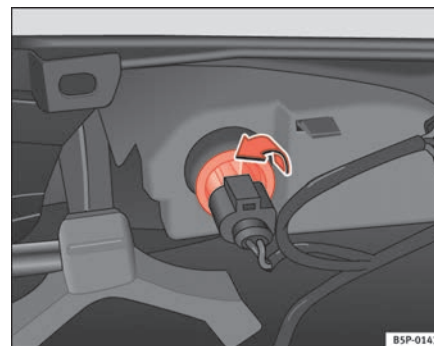

Fig. 194 Lamp on interior side of bumper
- Rotate the lamp holder to the left, and remove it in the direction of the arrow ⇒ fig. 194.